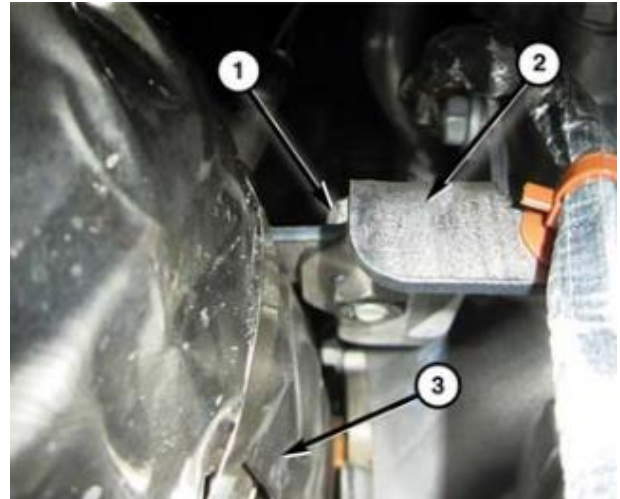

Figure 4 – Rear Catalytic Converter Upper and Upper Support Bracket
11. Remove the rear catalytic converter upper support bracket bolt (1) (Figure 4).
16. Install the rear catalytic converter upper support bracket bolt and tighten to 25 N·m (18 ft. lbs.) (Figure 4).